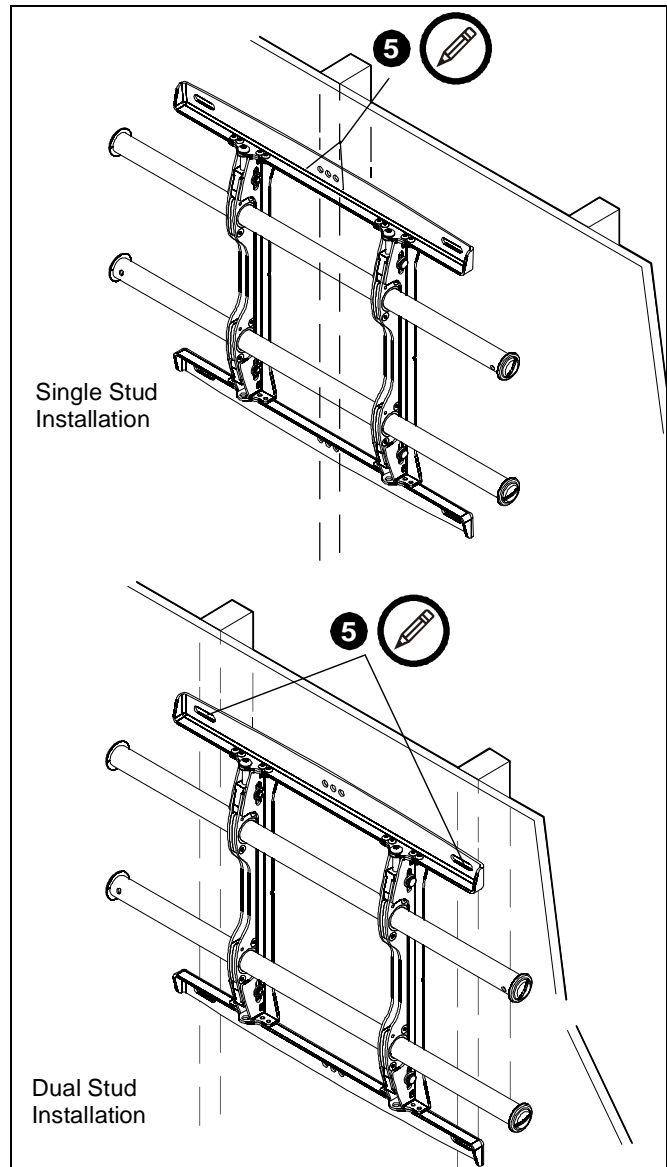

Figure 2
5. Using a level, mark the wall on each stud to attach the mount through the upper mounting slots. (See Figure 2)
**NOTE:** The MSM and MTM may be attached through the mounting slots on dual studs, or through the center mounting holes on a single stud. (See Figure 2)